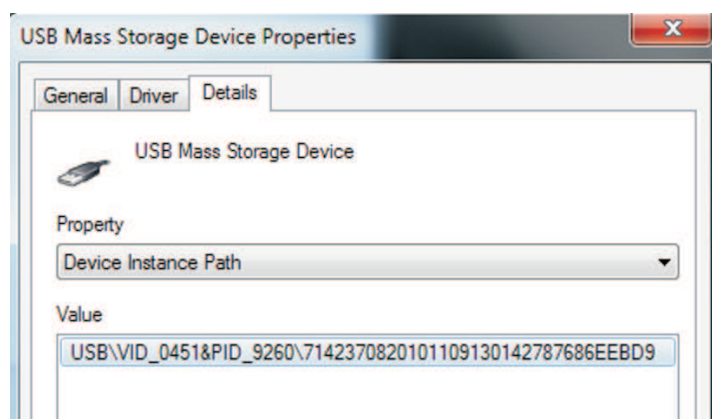

Figure 2-10. Instance Properties With FW Containing Mass Storage Instance Only (No HID)
3. Instance properties for a TUSB9260/TUSB9261 EVM board with previously burned FW in the SPI Flash containing a mass storage instance only (no HID) (see Figure 2-10).